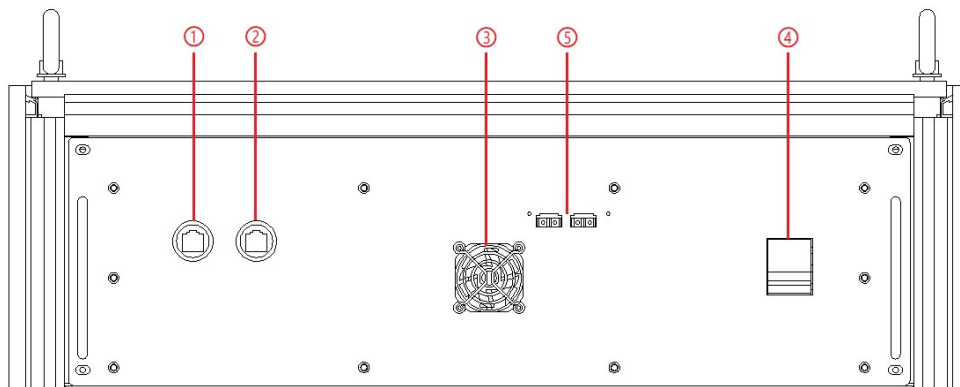

Figure 3-2 Control Modules
After the AC input is powered on, open the cabinet door, close the power switch of the control module (Figure 3-2④), power to the product control module.